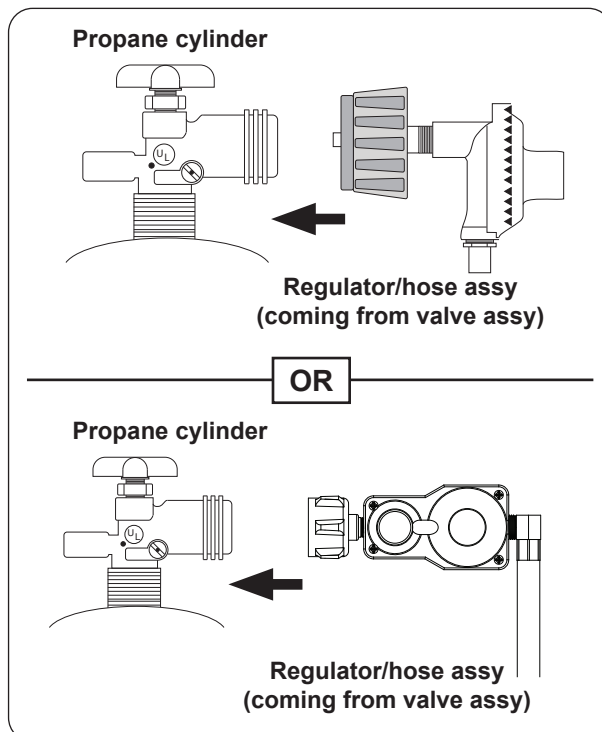

Fig. 28-2 Connecting hose assy to L.P. cylinder
2. Attach the regulator end of the hose assembly to a propane cylinder (not included) and tighten (see Fig. 28-2).